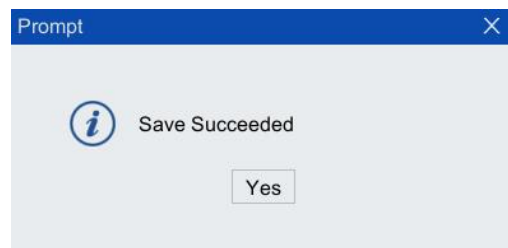

Figure 5-84 "Save successfully" prompt box
- Step3.** Click the <Save> button below, the "Save Successful" prompt box as shown in Figure 5-84 will pop up, and the setting is complete.